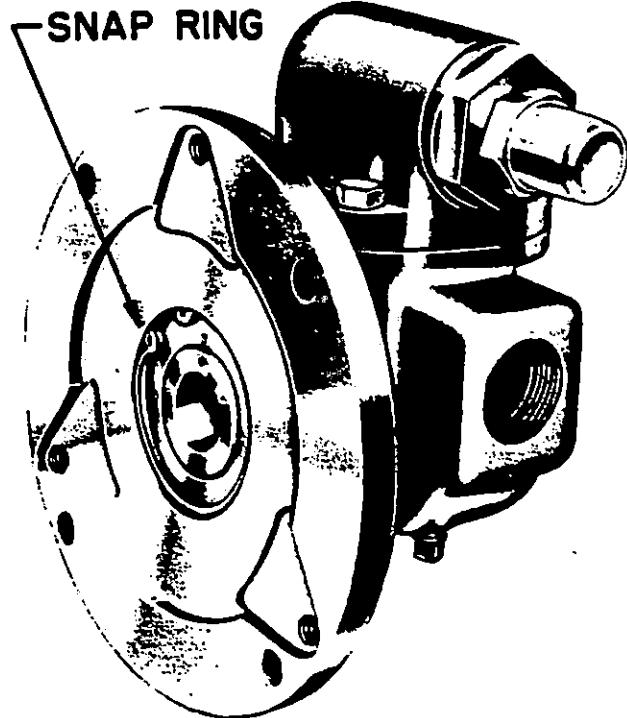

FIGURE 4
6. **REMOVE THE MECHANICAL SEAL OR LIP SEALS.** (See Figure 4.) Remove the snap ring in the casing of the two smaller pumps (G and GG sizes) and the complete seal can be removed out of the large flanged end of the casing. In the case of the G & GG size lip seal pumps these have no snap rings and the lip seals can be removed out the large flanged end of the casing. Remove the spring and rotary member from the rotor and the seal seat or lip seals from the pump end of the casing of the three larger size pumps (H, HJ, HL).